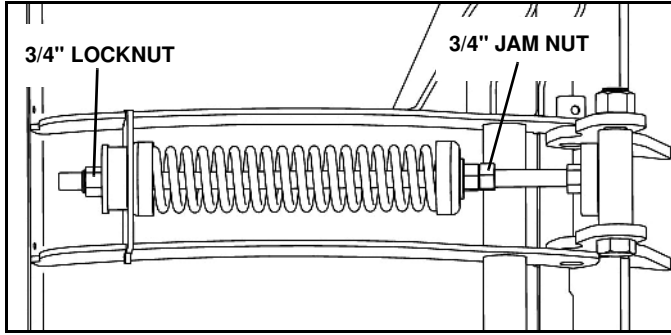

Figure 1-15
17. Tighten the 3/4" jam nut against the adjustment nut to secure the 14" spring cup spacing. (See Figure 1-15)